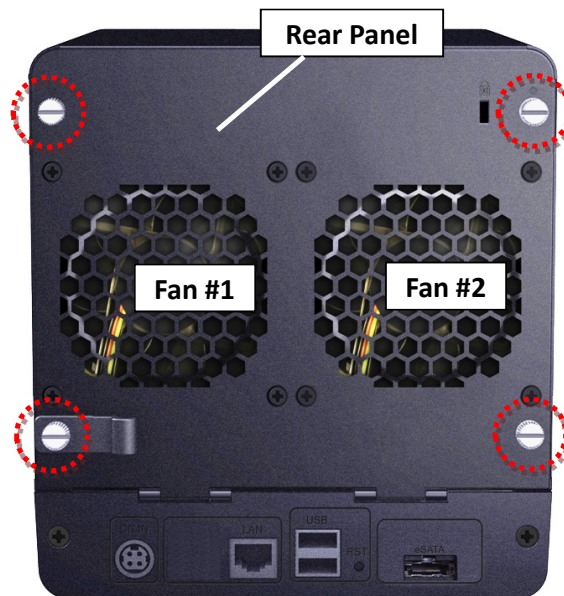

Fig. 86
3.2.14 Fix the four (4) hand screws on the rear panel (Marked by the red circles) to secure the rear panel. (Fig. 86)